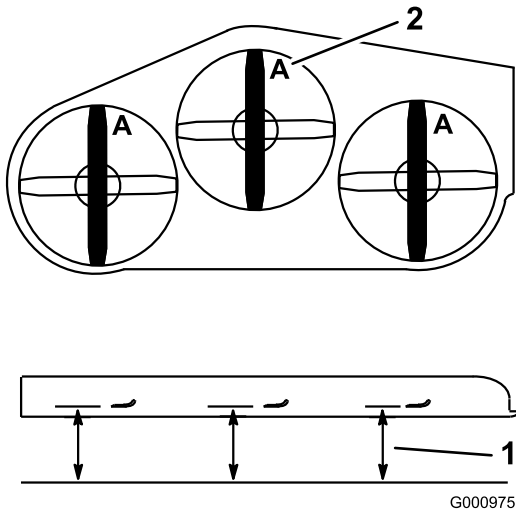

Figure 91
3. Rotate the blades until the ends face forward and backward (Figure 91).
4. Measure from a level surface to the cutting edge, position **A**, of the blades (Figure 91).